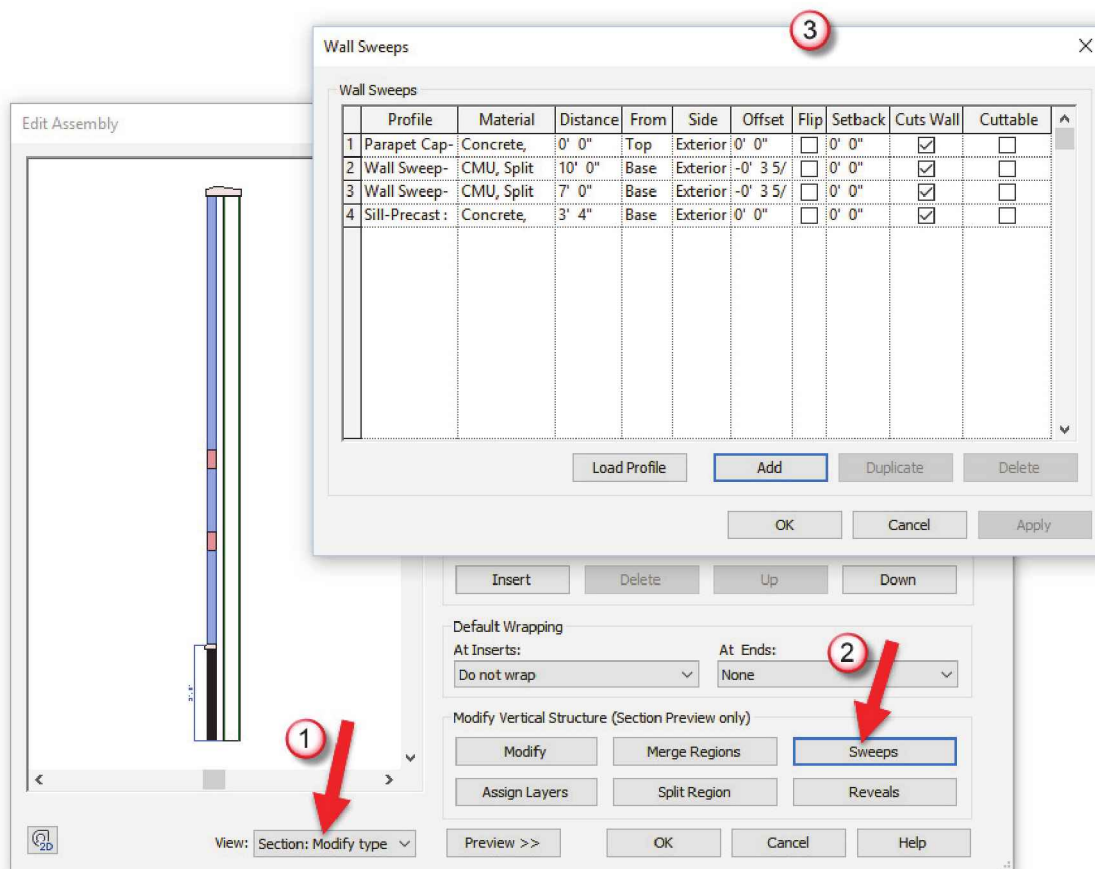

FIGURE 5-2.13 Wall Sweeps
25. Click the drop-down next to the word *View* and select **Section: Modify Type Attributes** (Figure 5-2.13 - Step #1).
26. Next, click the **Sweeps** button (Figure 5-2.13 – Step #2).